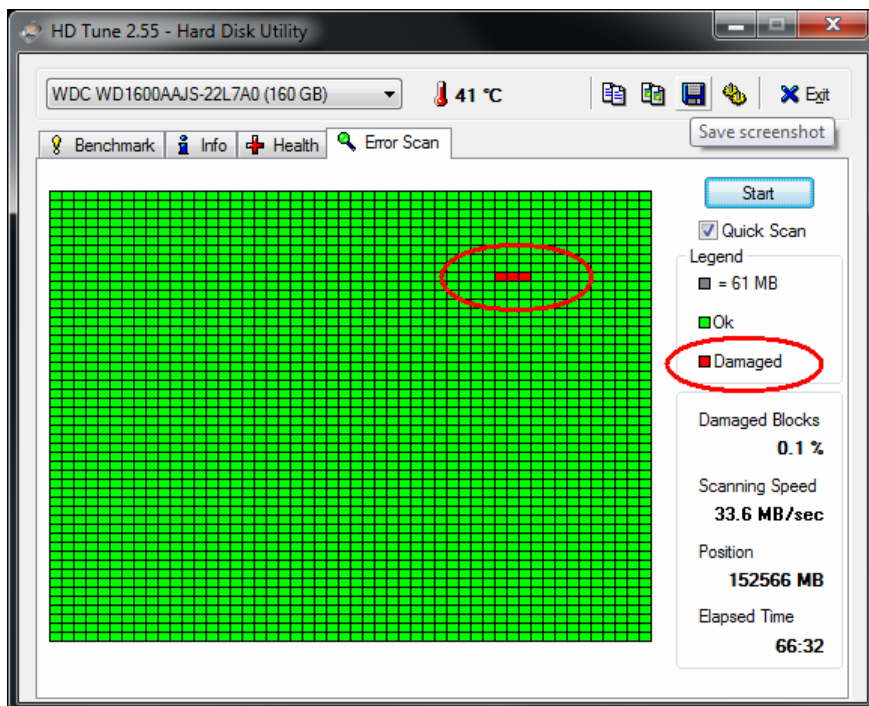

Figure 5-6
- B. Click the **Error Scan** tab and click **Start** to scan. Any found defects will be shown as red blocks (see Figure 5-6).